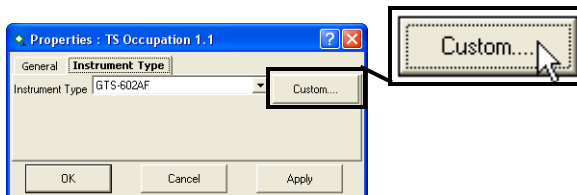

Figure 5-96. Open Custom TS Instrument List
2. Click **Custom** (Figure 5-96 on page 5-67) to display the *Custom TS Instrument List*.